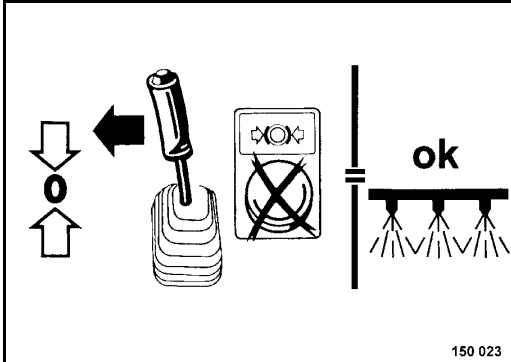

Fig. 82
- Shift the travel lever out of braking position towards "0"-position (Fig. 82) to switch the pressure sprinkler system on .